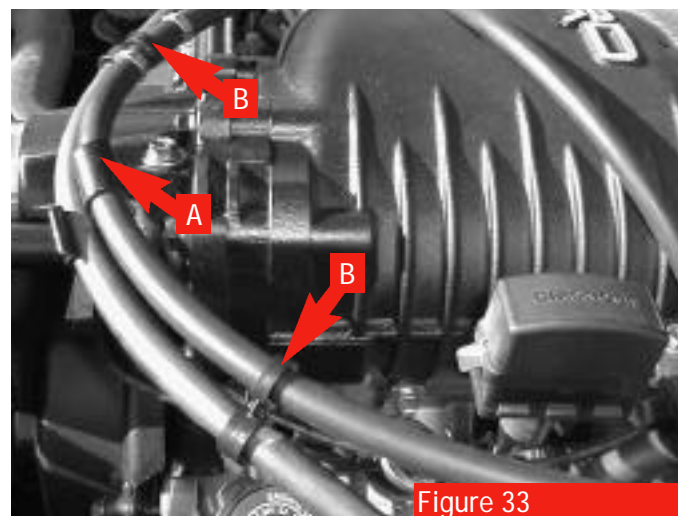

Figure 33
- Remove the throttle cable/evaporative canister hose bracket and bolt from the stock manifold. Install the bracket on to the supercharger as shown (see arrow A, figure 33). Insert the throttle cable and evaporative canister hose, and install the supplied hose clips on the throttle cable and evaporative canister hose as shown (see arrows B, figure 33).